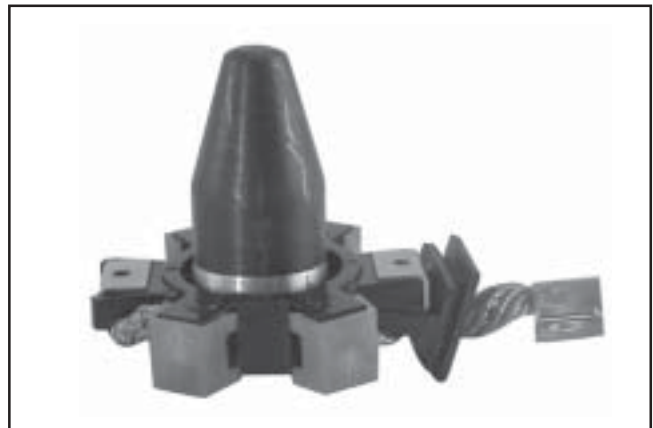

Figure 8-69. Brush Installation Tool with Extension.
- c. Install the brush springs and snap on the four retainer caps. See Figure 8-69.